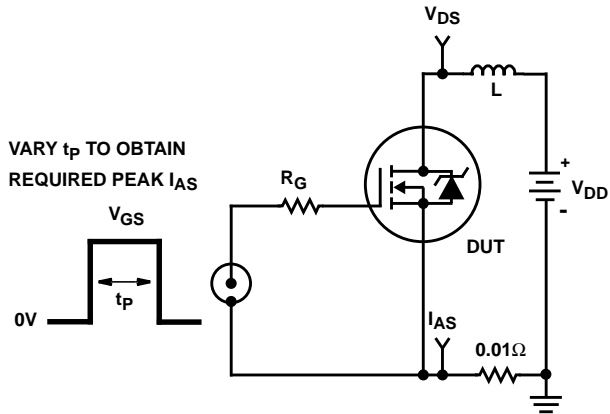

FIGURE 15. UNCLAMPED ENERGY TEST CIRCUIT
4. $V_{DD} = 25\text{V}$, starting $T_J = 25^\circ\text{C}$, $L = 530\mu\text{H}$, $R_G = 25\Omega$, peak $I_{AS} = 14\text{A}$ (Figures 15, 16).